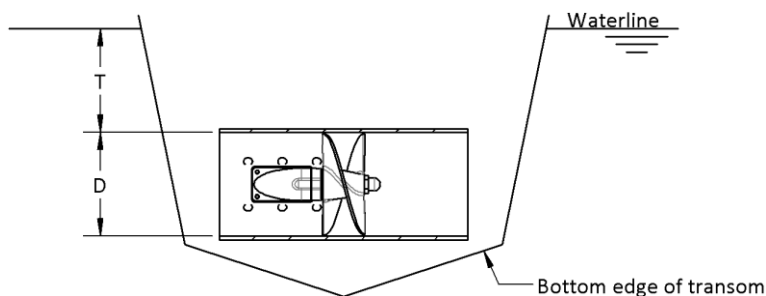

Figure 6 - Transom mounted thruster submersion recommendation
- Insufficient submersion can cause air to be sucked into the thruster which can result in excessive noise and vibration, decreased thrust, and damage to the thruster. The top of the tube should be at least one tunnel diameter deep from the *lightest* waterline (i.e. T should be greater than D in Figure 6). Additionally, for vessels operating in open seas, an allowance for pitch, roll, and wave action should be added to the minimum submersion recommendation.